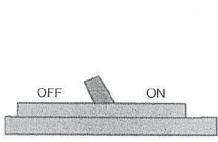

Figure 1
1. Place circuit breaker in the **OFF** position (figure 1).
1. Snap on the locking cleat to the base circuit breaker lockout (figure 1)